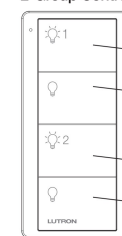

Figure 3c
- For 2-group Pico wireless controls only, pair the second group by repeating steps 1 through 4 using the **Off** button in Group 2 (Figure 3c).